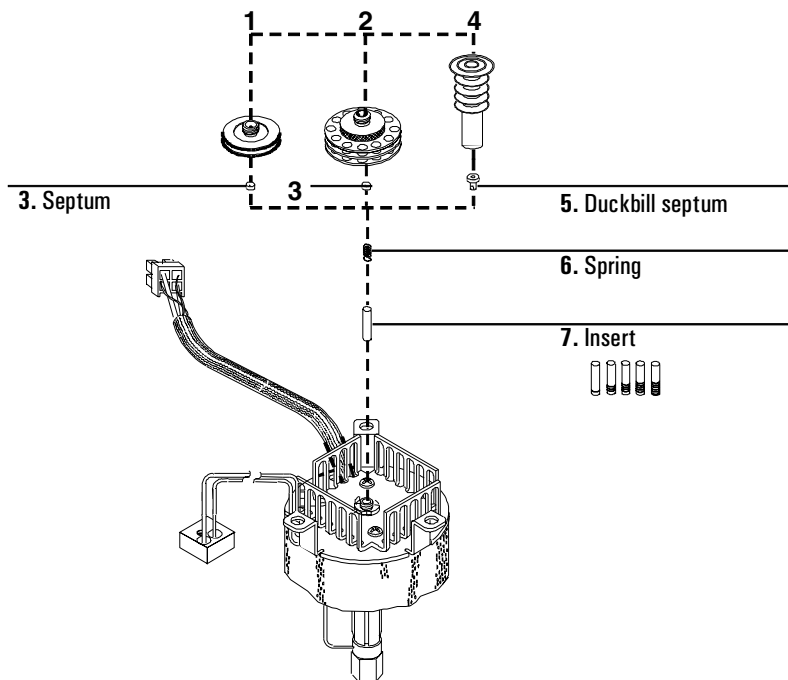

Figure 14 Hardware for the cool on-column inlet
2. Locate the septum nut or cooling tower assembly at the top of the inlet and remove (see Figure 14). If you are using a cooling tower, grasp the three rings and unscrew. If you are using a septum nut, grasp the knurling and unscrew.